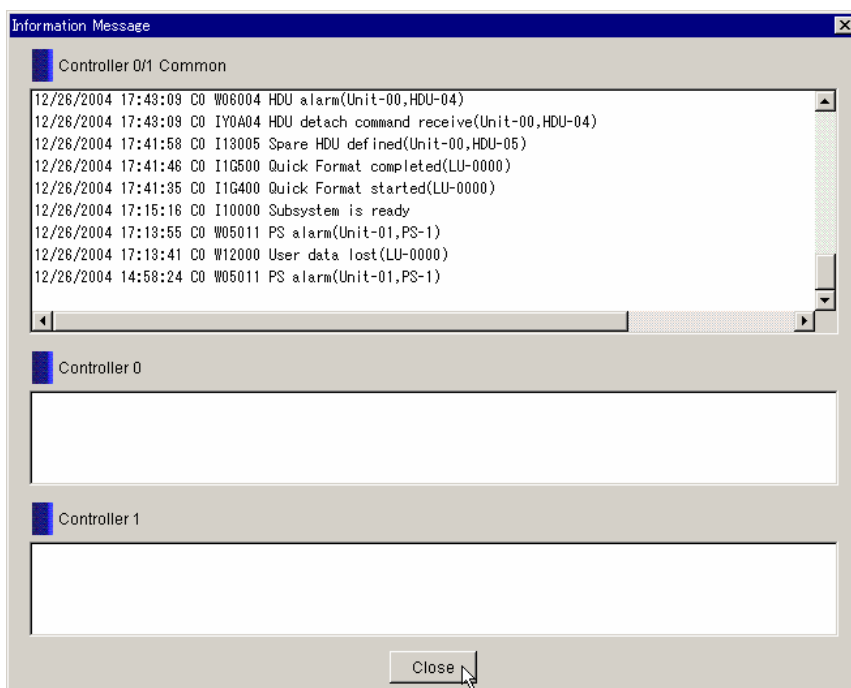

Figure 4.17 Information Message Dialog Box
1. Display the **Information Message** dialog box (see Figure 4.17) by one of the following methods: